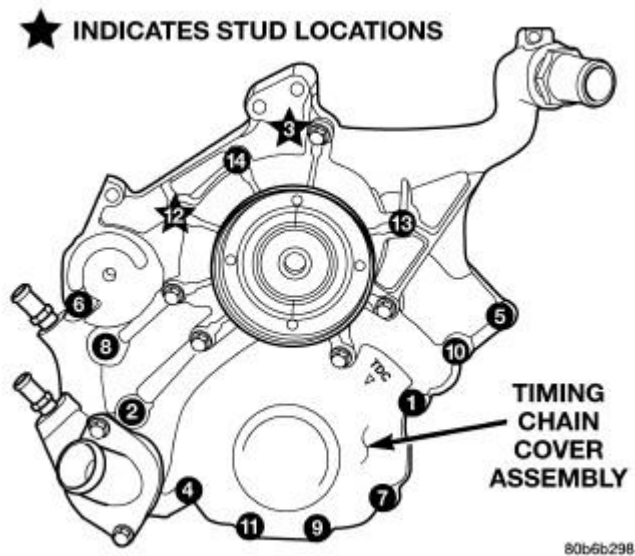

Fig. 241: Timing Chain Cover Fasteners
4. Install cover. Tighten flange head fasteners in sequence as shown in illustration in to 58 N.m (43 ft. lbs.). See **Fig. 241**.